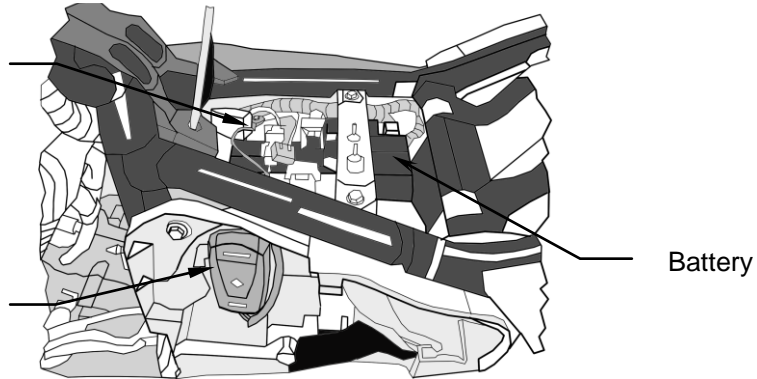
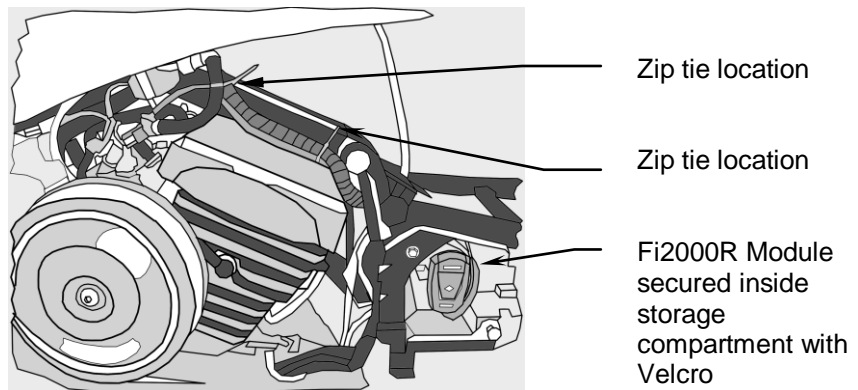

FIGURE 1
FIGURE 3
1. Remove both seats and fuel tank console cover. Remove the one front and two rear bolts securing the fuel tank. To enable raising the fuel tank, disconnect the wire connectors mounted on top of the battery behind the fuel tank, they are connected with two harnesses running under the left side of the fuel tank, (Fig. 1.)
3. Position the Fi2000R in the left hand storage area and feed the wire harness through the oval hole in the back of this case, (Fig. 1.) Next, feed the harness through the frame opening behind the rear cylinder and follow the bike's wire harness towards the front of the engine.
5. Zip tie the Fi2000R along the bike's main harness as shown in, (Fig. 3.) Attach the black ground wire from the Fi2000R to the negative post of the battery. Secure the Fi2000R body to the inside of the storage box with the Velcro strip, (Fig. 1.)